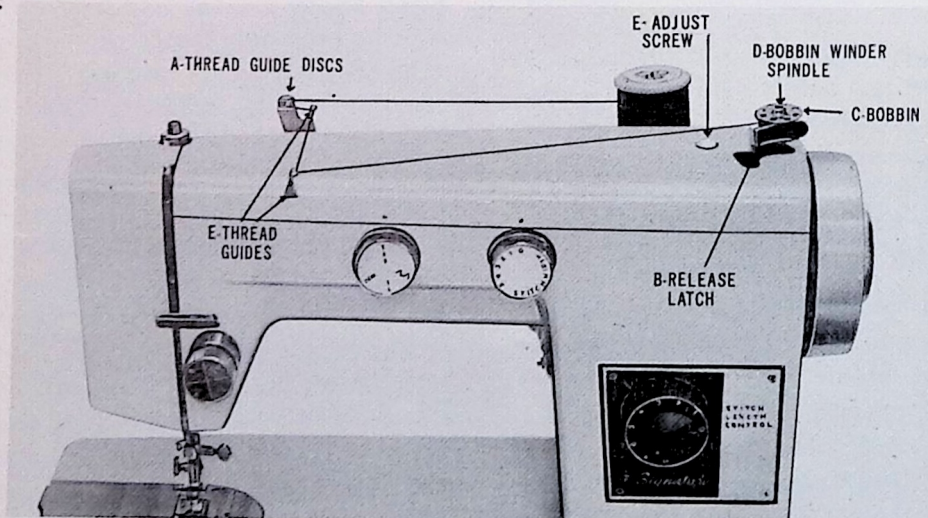
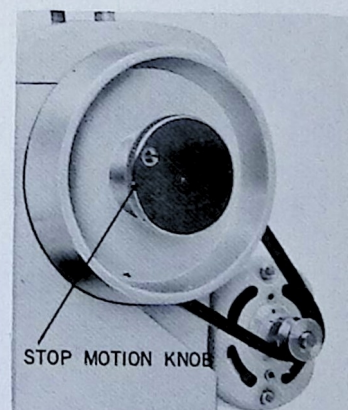

Fig. 2 Winding the Bobbin
Fig. 7. To Disconnect the Sewing Mechanism
1. To wind the bobbin disconnect the hand wheel from the stitching mechanism (Fig. 7, Page 5). By turning the stop motion knob (Fig. 7) toward you with the right hand (while holding the hand wheel with the left hand) disconnect the sewing mechanism for the bobbin winding operation. This is necessary to prevent damage to your machine while winding the bobbin.
2. Lower the presser foot (N) Page 2, by lowering the presser foot lever.
3. Now proceed as follows (see Fig. 2 below):
- a. Place the bobbin (C) on the bobbin winder spindle (D) and push it firmly against the spindle holder.
- b. By pressing the bobbin winder release lever (B) toward the bobbin, the bobbin winder spool is brought into contact with the hand wheel. To lock, press in until a "click" is heard.
- c. Place thread on spool pin on back of arm, run thread through thread guide discs (A) and through thread guides (E).